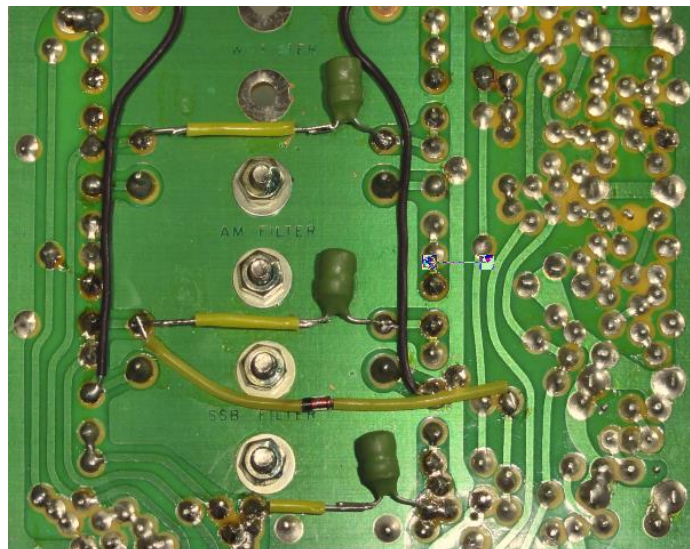

Figure 3
- Take the 3 choke coils and solder on the back of the PB-1435E board at the positions of the resistors R315, R316 and R323, as shown in Figure 3. For the wiring of the AM and CW filter coils connected in series, you can use the cut-off wires of the resistors. The insulation tube comes from the removed resistors R315 and R316.